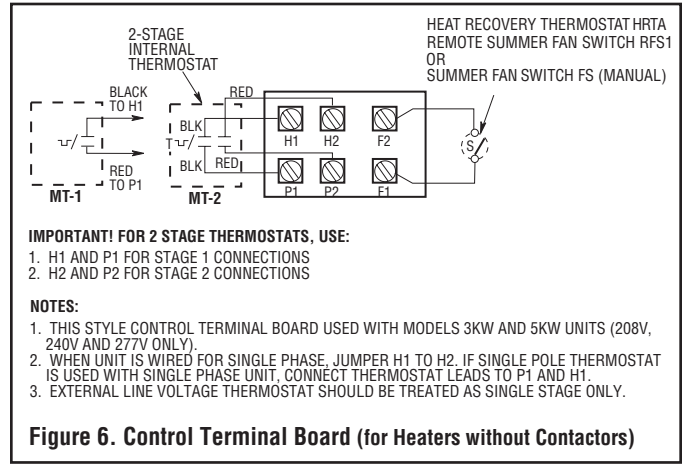
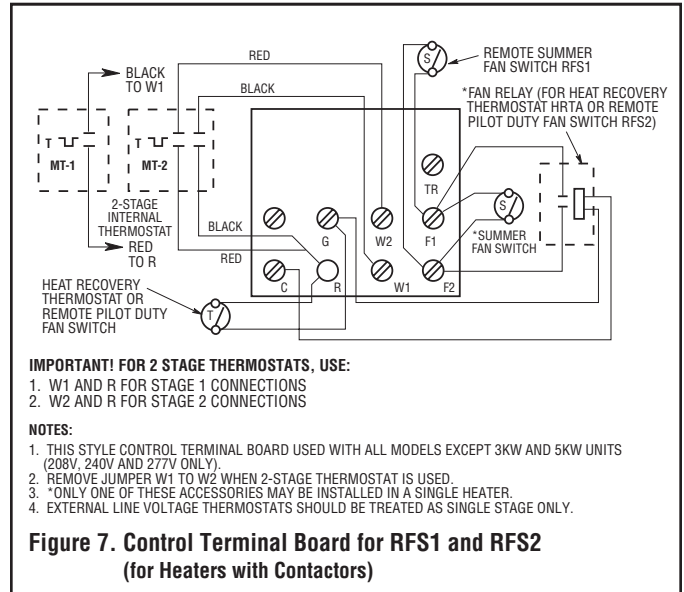

Figure 6. Control Terminal Board (for Heaters without Contactors)
Figure 7. Control Terminal Board for RFS1 and RFS2
5. Refer to wiring diagram, Figure 6, for wiring procedure on 3KW and 5KW (208V, 240V and 277V only). Refer to wiring diagram, Figure 7, for wiring procedure on all other heaters.
3. Install leads to terminal block. Refer to wiring diagram, Figure 6, for wiring procedure on 3KW and 5KW units (208V, 240V, and 277V only). Refer to wiring diagram, Figure 7, for wiring procedure on all other heaters.
4. A 1/2-inch (12.7mm) knockout is provided in the back of the heater adjacent to the control terminal board. Use a crimp-on terminal suitable for No. 8 screw on the control terminal board. Connect one field wire terminated lead to terminal F1 and the other terminated lead to terminal F2. Refer to Figure 6 for connecting to heaters without built-in contactors. Refer to Figure 7 for connecting to heaters equipped with built-in contactors.
4. A 1/2-inch (12.7mm) knockout is provided in the back of the heater adjacent to the control terminal board. Use a crimp-on terminal suitable for No. 8 screw on the control terminal board. Connect one field wire terminated lead to terminal "R" and the other terminated field wire lead to terminal "G". Refer to Figure 7.
2. Connect the lead wires from the relay to the control terminal board as shown in Figure 7. Each lead wire is marked for proper terminal location; connect the lead wires as indicated.
(For heaters with 24 Volt Control Circuit refer to Fig. 7 and proceed to step 1. For heaters with Line Voltage Control refer to Fig. 6 and proceed to step 3.)
2. Connect the lead wires from the relay to the control terminal board as shown in Figure 7. Each lead wire is marked for proper terminal location; connect lead wires as indicated.
8. Refer to wiring diagram, Figure 6 or Figure 7 for wiring procedure.
5. Effectuer le câblage sur les 3 KW et les 5 KW (208 V, 240 V et 277V uniquement) conformément à la figure 6. Effectuer le câblage sur tous les autres radiateurs conformément à la figure 7.
3. Monter les fils vers la borne serre-fils. Effectuer le câblage des 3 KW et des 5 KW (208 V, 240 V et 277V seulement) conformément à la figure 6. Câbler tous les autres radiateurs conformément à la figure 7.